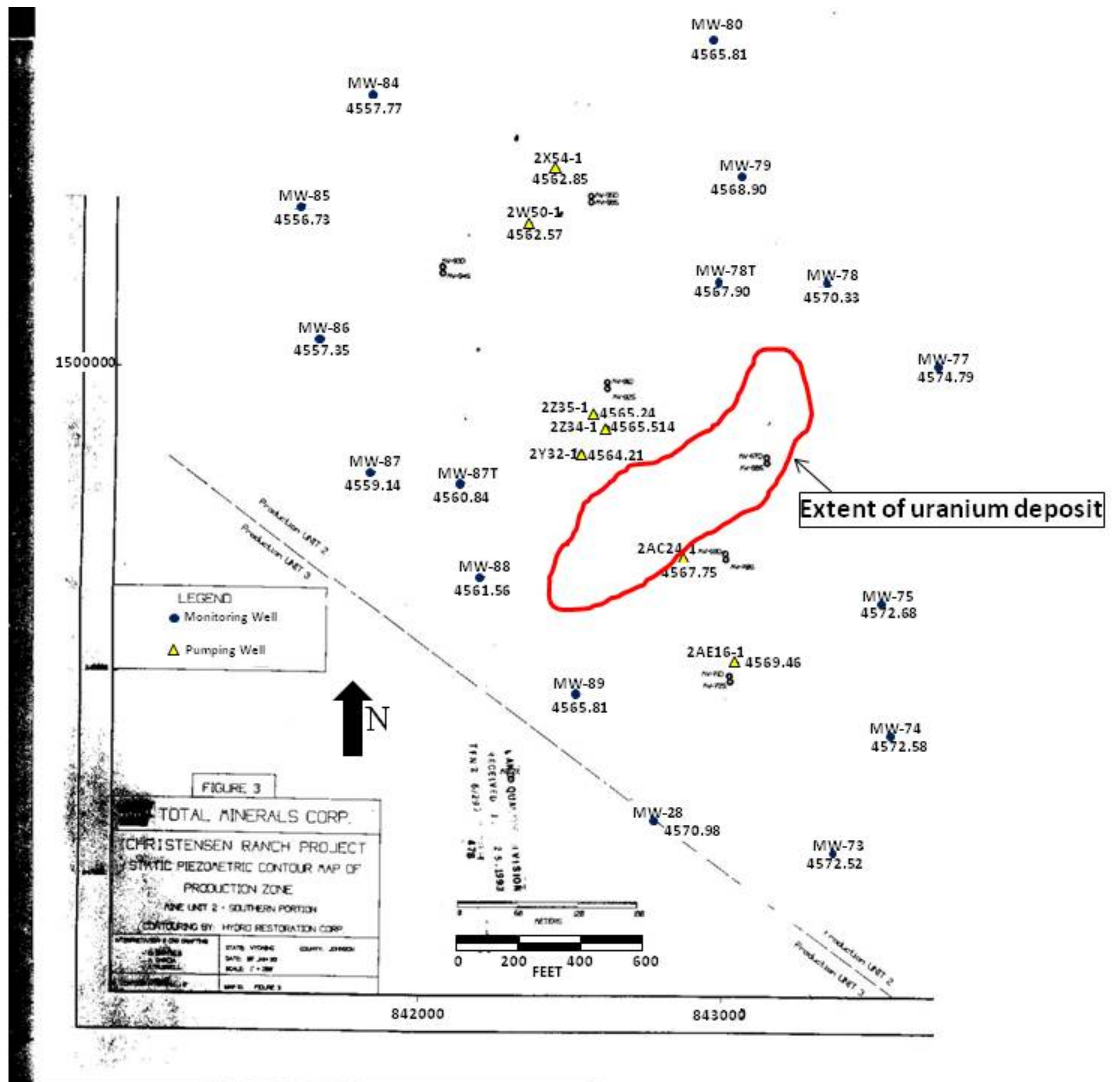

Figure 1: Well locations and water levels at uranium mine site. The red line denotes the extent of the uranium deposit that will be mined.
7. **Project:** Head was measured in several monitoring wells and pumping wells around a uranium roll front deposit at a site in Wyoming. A map of the site along with head measurements is shown in Figure 1. For these head measurements, draw the potentiometric surface. Use a contour interval of 2 ft.